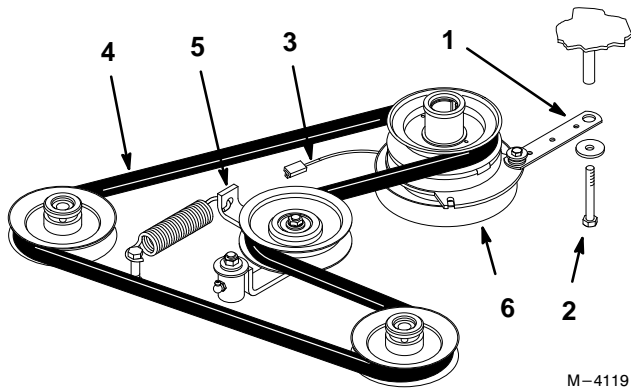

Figure 45
1. Remove bolt from clutch strap and unplug clutch electrical wire. (Fig. 45).
2. Pull spring loaded idler to side. Remove traction belt from the engine and hydro pump pulleys (Fig. 45).
3. Install new belt around engine and hydro pump pulleys (Fig. 45).
4. Pull spring loaded idler to side and align belt. Release pressure on spring loaded idler (Fig. 45).